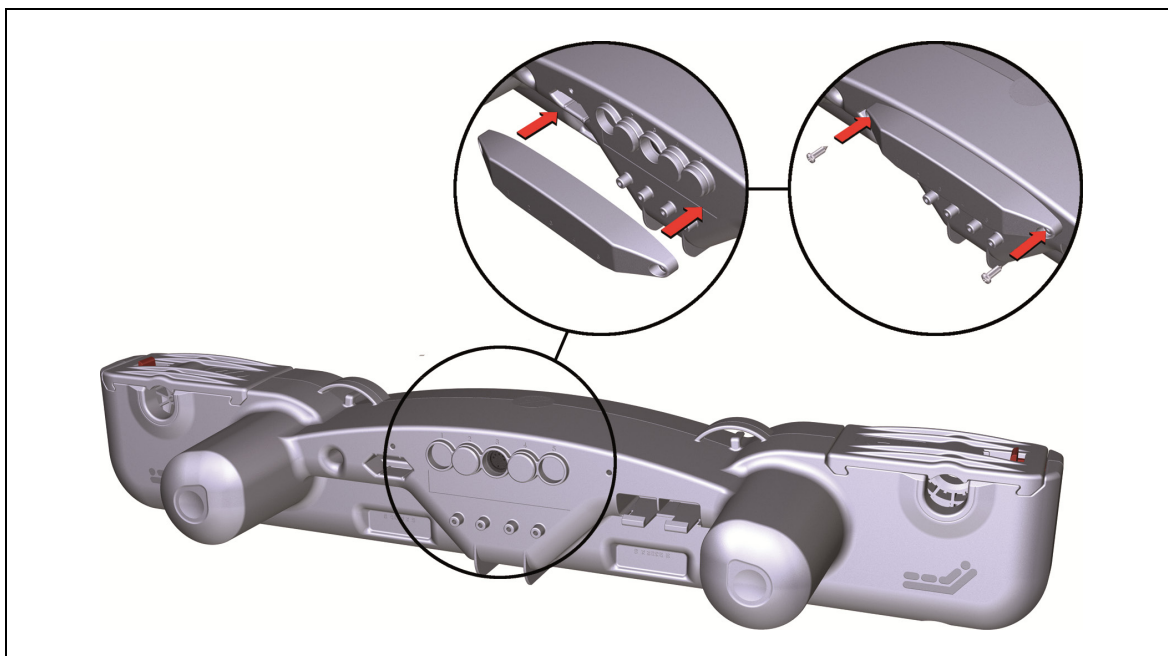

Figure 7 Mounting and positioning the optional pull-out guard
- 9 Attach the optional pull-out guard over the socket (refer to Figure 7).
The optional pull-out guard helps to prevent the plug from being accidentally pulled out of its socket. The pull-out guard is attached over the socket and screwed in with two screws to the drive (as shown in Figure 7).